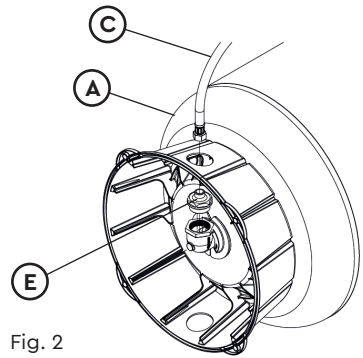

Fig. 2
- Screw one end of the long flexible hose (item C) to the smaller threaded end of the pressure vessel adaptor and tighten for a leak tight seal (**Do not over tighten**) (see Fig. 2).